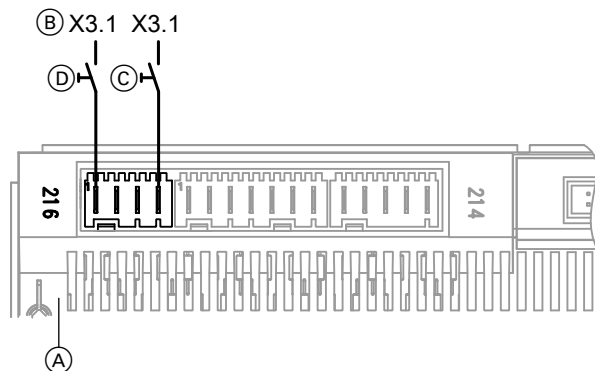

Fig. 53
- To the heat pump control unit as shown in Fig. 53